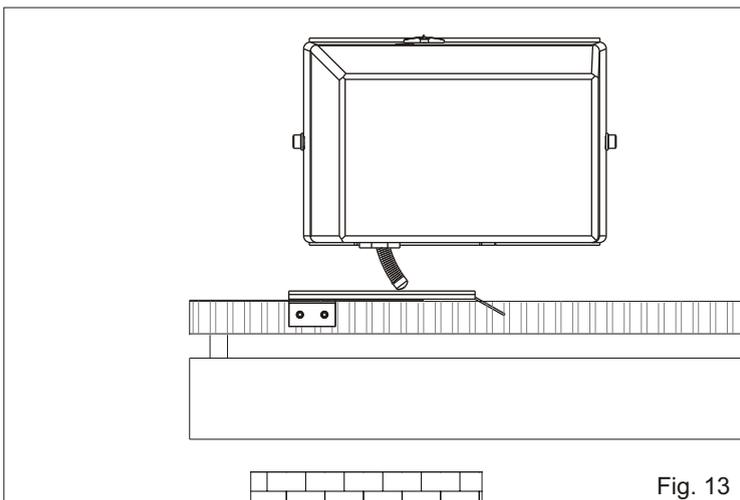
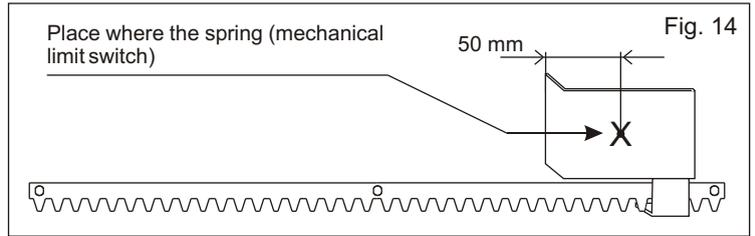
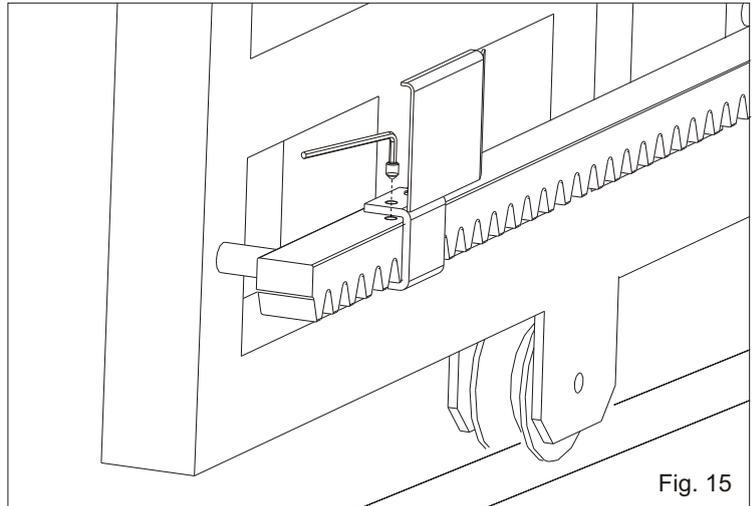

Fig. 13
Fig. 14
Fig. 15
- Place the limit switch plate on the gear rack to have the limit switch (spring in case of mechanical limit switch (Fig. 13)) in correspondence with the X point which is 50 mm from the folded side of the plate (Fig. 14) and fix it with the supplied screws (Fig. 15).
- Place the limit switch plate on the gear rack to have the limit switch in correspondence with the X point which is 50 mm from the folded side of the plate (Fig. 14) and fix it with the supplied screws (Fig. 15).